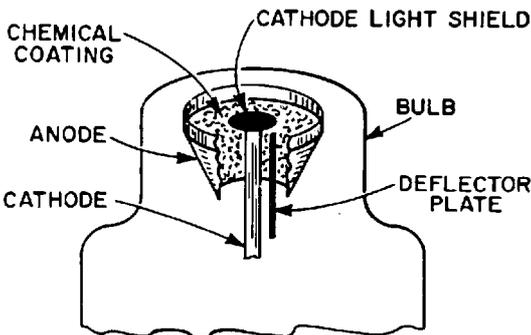

Fig. 43-5. The tuning-eye tube.
**The Tuning-Eye Tube.** An ingenious application of the cathode-ray (or electron-ray) tube has been developed to aid us to tune our radio receiver. In a glass bulb from which the air is evacuated, a cathode is mounted in a vertical position. Around it is placed a funnel-shaped anode, tapering down. The inner surface of the anode is coated with a chemical that glows when struck by an electron stream. Electrons streaming off the heated cathode strike the inner surface of the anode (or target), producing a ring of light (Fig. 43-5).